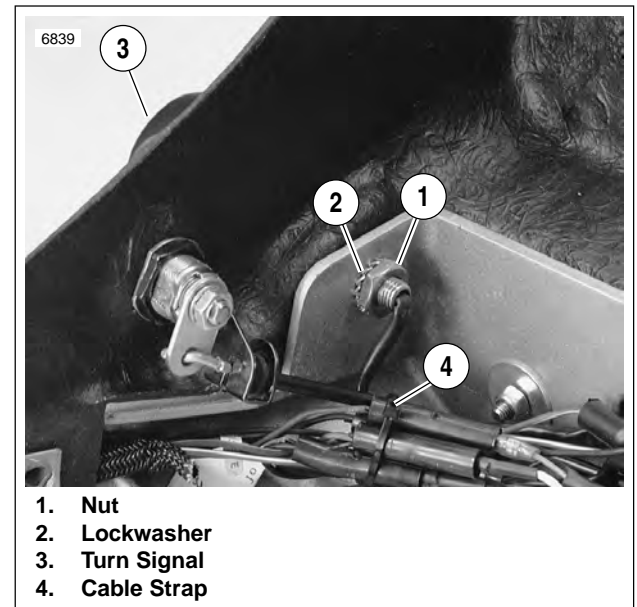

Figure 7-46. Rear Turn Signals
4. See Figure 7-46. Remove nut (1) and lockwasher (2).
5. Remove turn signal (3) from outside of trunk.
1. See Figure 7-46. Insert bullet connectors through rear hole in trunk. Attach turn signal (3) using lockwasher (2) and nut (1). Tighten nut to 96-120 **in-lbs** (11-14 Nm).